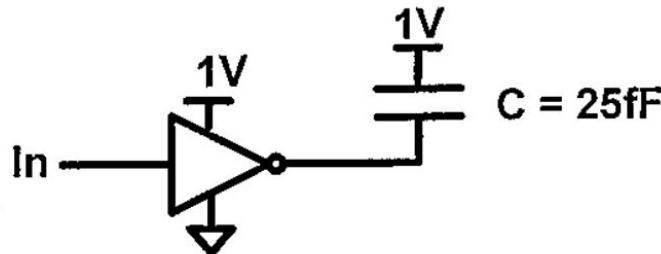

Figure 3a.
- a) (4 pts) How much energy is drawn from the 1V power supply in the circuit shown below in Fig 3a when I_{in} steps from 0V to 1V? How about when I_{in} steps from 1V to 0V? You can ignore all capacitors associated with the transistors inside of the inverter.